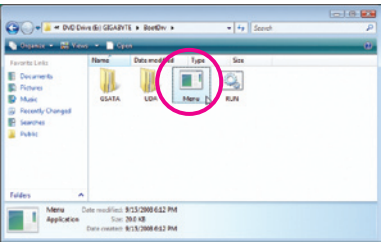
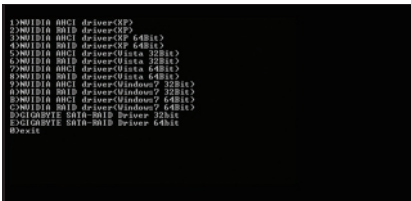

Figure 2
Figure 3
- 2: From your optical drive folder, double click the **Menu.exe** file in the **BootDrv** folder (Figure 2). A Command Prompt window will open similar to that in Figure 3.
- 3: Insert the blank formatted disk. Depending on the operating system to be installed, select the controller driver by pressing the corresponding letter from the menu and press <Enter>. For example, from the menu in Figure 3, select **2) NVIDIA RAID driver (XP)** for the RAID driver for Windows XP 32-bit operating system. Your system will then automatically copy the driver files to the floppy disk. Press any key to exit when finished.